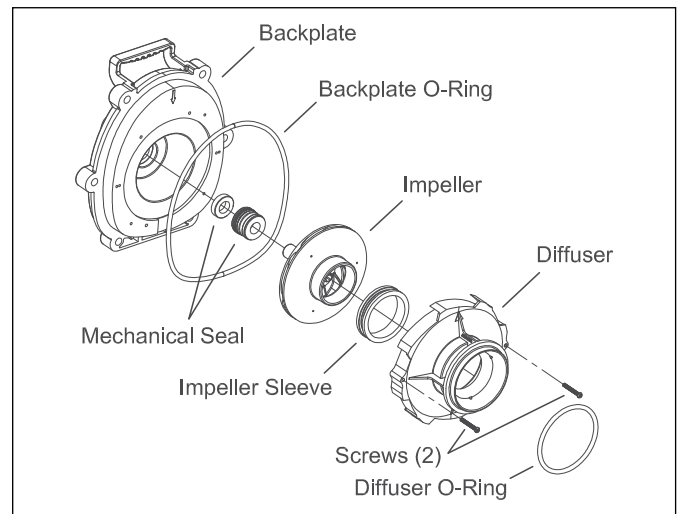

Figure 12. Backplate, Impeller, Diffuser, Mechanical Seal Exploded View
NOTE Refer to Figure 12 for an illustration of the location of the mechanical seal and impeller.
2. Remove the carbon face seal half from the motor shaft (See Figure 12). This is a spring-loaded seal. Grasp the portion of the seal closest to the impeller body and pull the seal off, using a twisting motion.